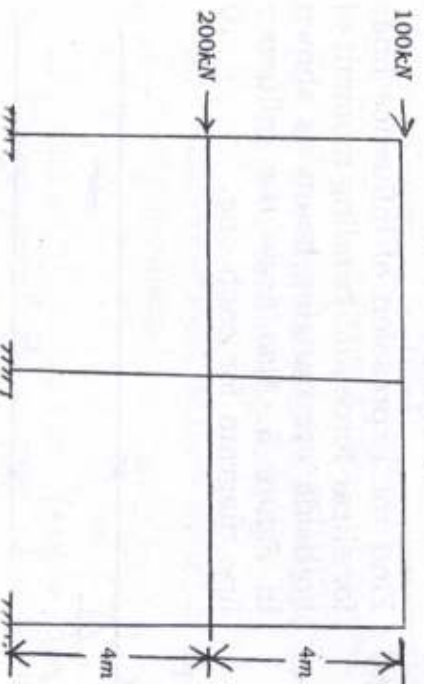

Figure 1
1. (a) Analyse the building frame subjected to horizontal loading as shown in Figure 1. Find out beam axial forces, beam shear, column moments, beam moments, column moments. Draw bending moment diagram. 10